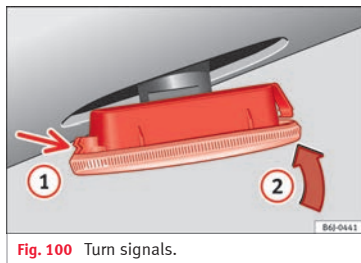

Fig. 100 Turn signals.
- First fit the turn signal in the opening in the chassis, fastening the tabs (1) » Fig. 100, and then fit in the bulb as shown by the arrow (2) » Fig. 100.